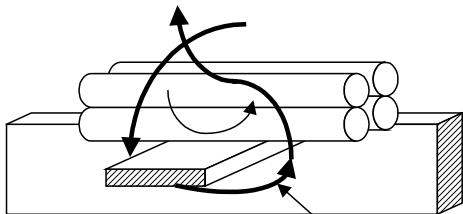

Figure 13a — NOTE 1
1. PLACE FREE ENDS UNDER SLAT (FIGURE 13a). THE DIRECTION UNDER THE SLAT SHALL BE REVERSED ON ALTERNATE STITCHES (FIGURE 13e AND 13f).